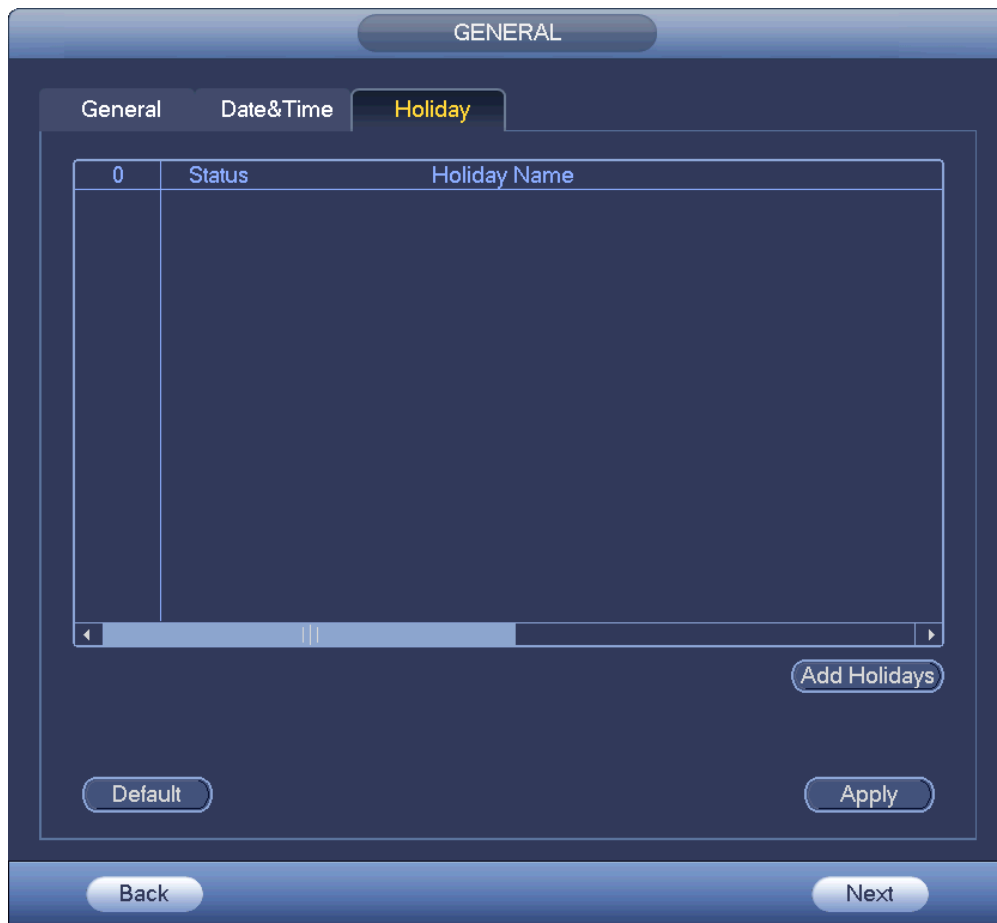

Figure 4-13
Step 1 Click Holiday button. See Figure 4-13.